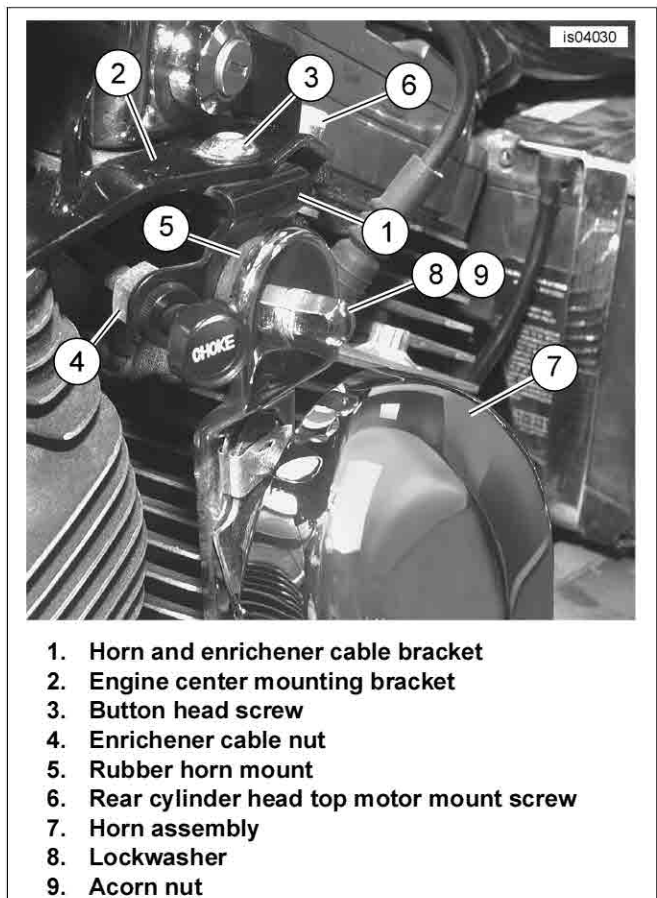

Figure 4. Horn Assembly Installation, 1992-1994 Models
9. See Figure 4. Install the **new** horn and enricher cable bracket (1) to the engine center mounting bracket (2) using the new screw (3). Tighten the screw to 60-120 **in-lbs** (6.8-13.6 Nm).